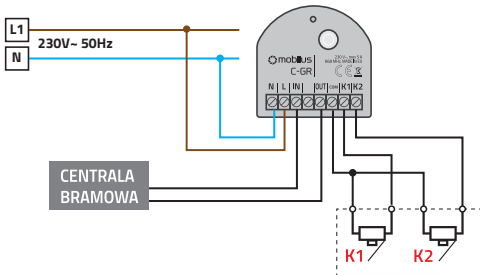

Fig. 5
2. Connect the **MOBILUS C-GR** module as shown in - Fig. 5.